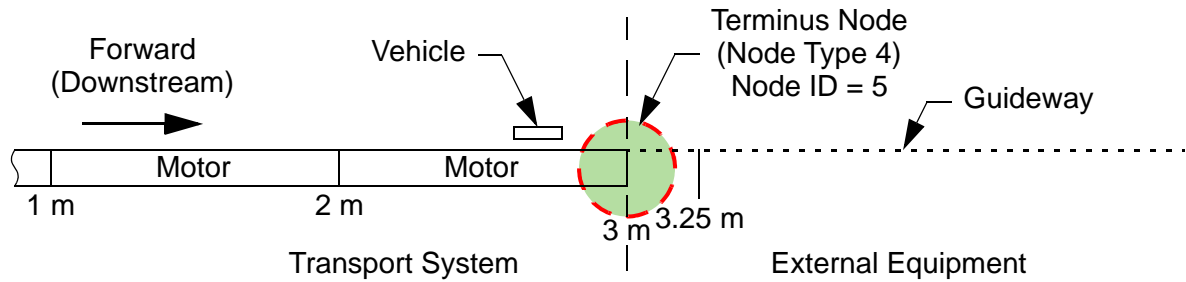

Figure 3-29: Terminus Node Exit Example
1. The host controller sets **EXIT_ALLOWED** High for the Terminus Node (see Figure 3-29) using the MMI_terminus_node_command to signal that it is ready for a vehicle to exit. This signal specifies space is available for a vehicle on the remote equipment beyond the Terminus Node of a transport system.